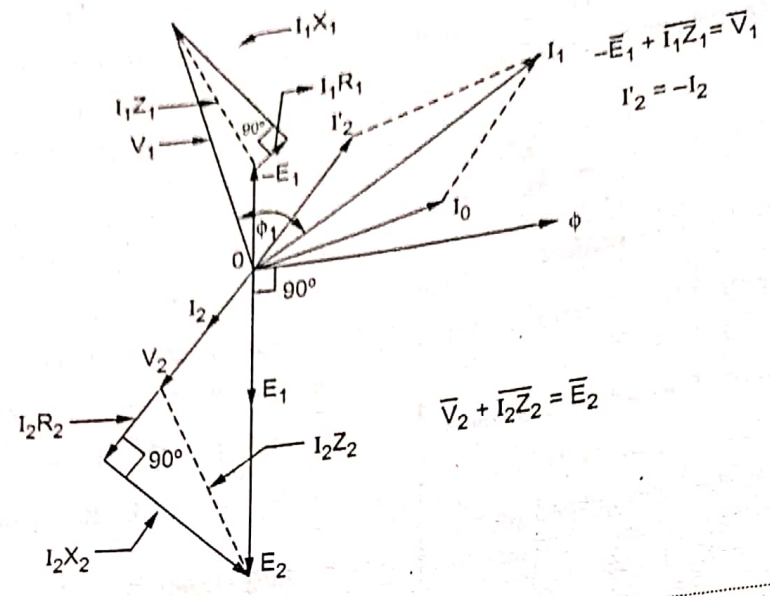

Fig. Q.15.1 Phasor diagram for unity power factor load
- The phasor diagram is shown in the Fig. Q.15.1.